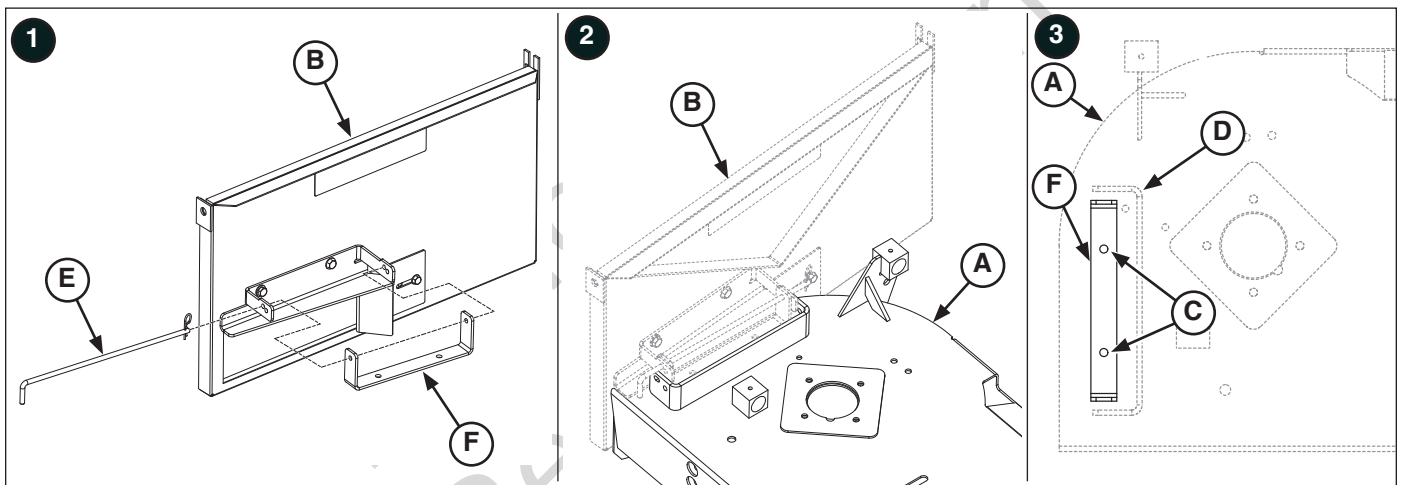

Figure 5. Preparing the Mower Deck
1. Attach the deck mount bracket (**F**, **Figure 5**) to the assembled bagger mount (**B**) with the quick disconnect rod and hair pin (**E**).
2. Place the assembled bagger into position as shown in Insert 2 of Figure 5. The bagger mount should rest flush on top of the mower deck (**A**). The deck mount bracket should be aligned parallel to the side of the mower deck and positioned so its equally spaced between the edges of the discharge chute mounting bracket. See Insert 3 of Figure 5.
3. With the bagger mount in the proper position, mark the hole locations (**C**) on the mower deck. Remove the bagger mount and drill two (2) .390 holes through the deck.